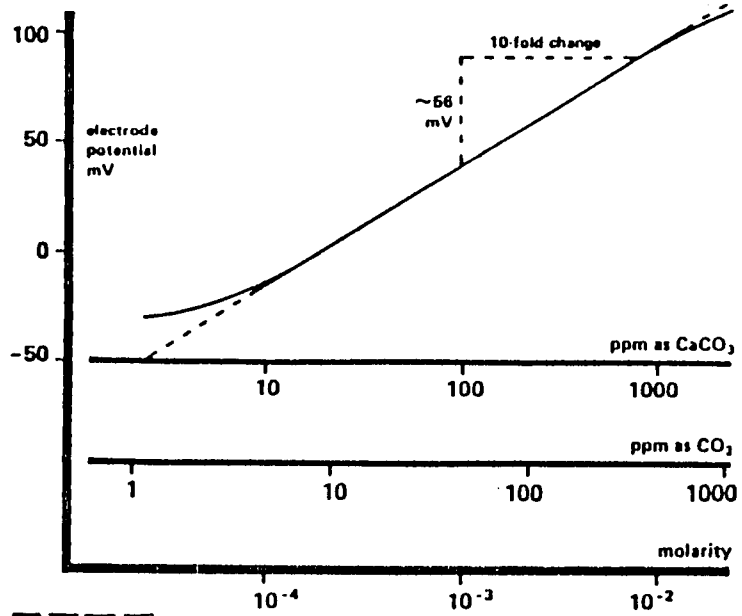

Figure 3-1. Typical Response of Carbon Dioxide Electrode
5. Using standard semi-logarithmic paper, plot the mV value (linear axis) vs. concentration (log axis). A typical calibration curve appears in Figure 3-1.
Electrode potential response to carbon dioxide concentration is a straight line over two decades of concentration (5×10^{-4} M to 2×10^{-2} M) with a slope of about 56mV per decade, when plotted on semi-logarithmic paper. Refer to Figure 3-1.